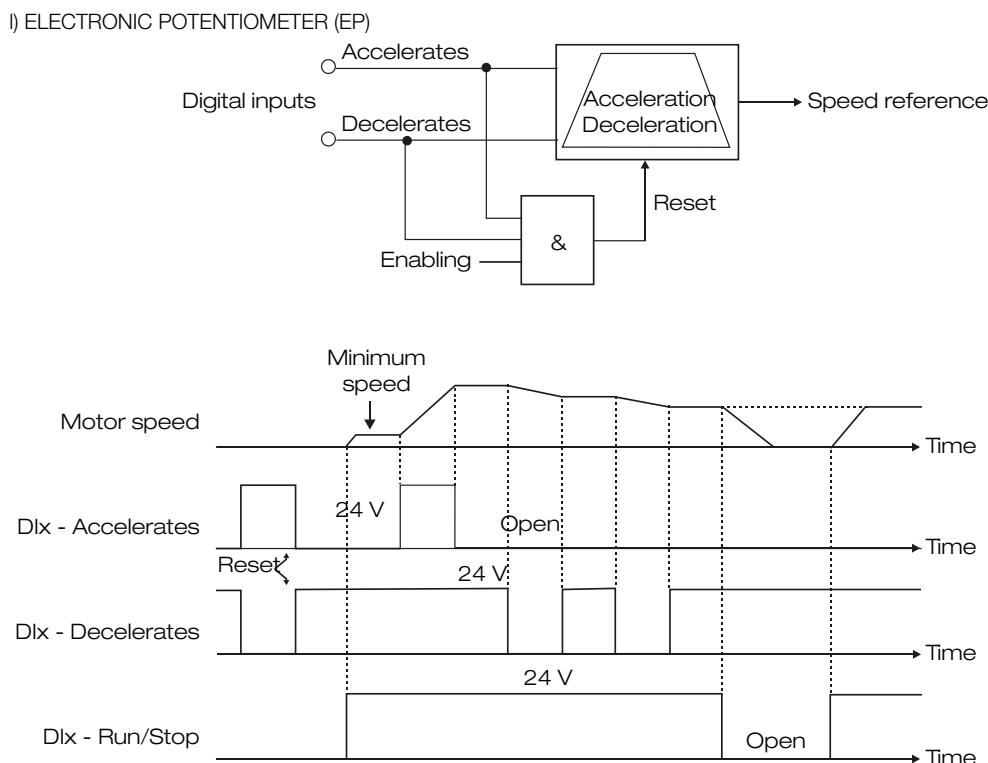

Figure 5.37: (a) to (l) Details on the operation of the digital input functions
- The **‘Electronic Potentiometer’** (E.P.) function allows the speed reference to be adjusted through 2 digital inputs (one to increment it and the other to decrease it). To enable this function, you must first configure the speed reference for E.P., setting P0221 = 7 and/or P0222 = 7. After enabling this function, simply program DI3 or DI5 (P0265 or P0267 = 5) and DI4 or DI6 (P0266 or P0268 = 5). The operation of this function can be seen in Figure 5.37 on page 5-62. It is important to note that the increase of the reference is made with the application of 24 V at the digital inputs, while the decrease is done with the application of level 0 V. To reset the reference to zero, apply 24 V at the “Increase EP” input and 0 V at the “Decrease EP” input simultaneously with the inverter disabled. Thus: